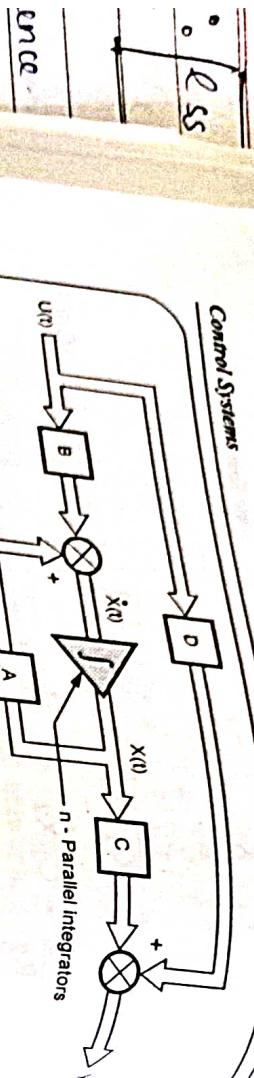

Fig. 5.1 State diagram of MIMO system
- The Fig. 5.1 shows the state diagram of the basic state model  $X(t) = A X(t) + B U(t)$  and  $Y(t) = C X(t) + D U(t)$ .